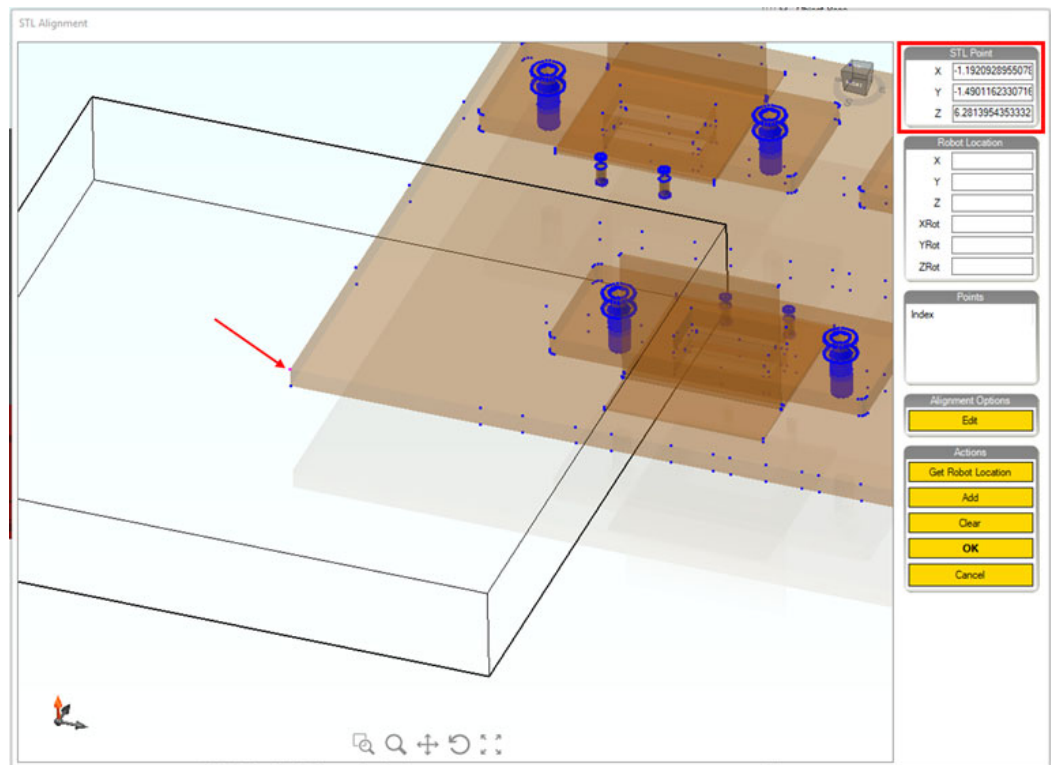

Figure 283: Selecting a Point to Calibrate
7. Select a defined point on the STL model to calibrate (see Figure 283). Notice the "STL Point" data pane populates with the selected points pose.